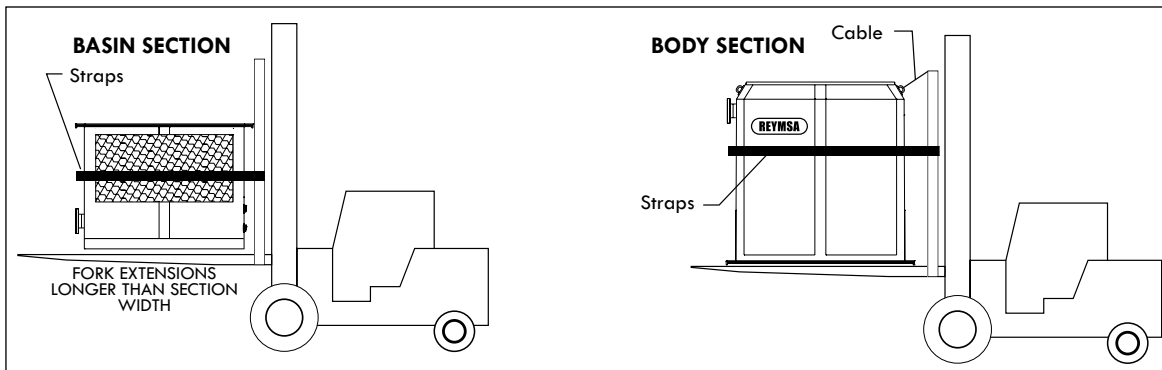
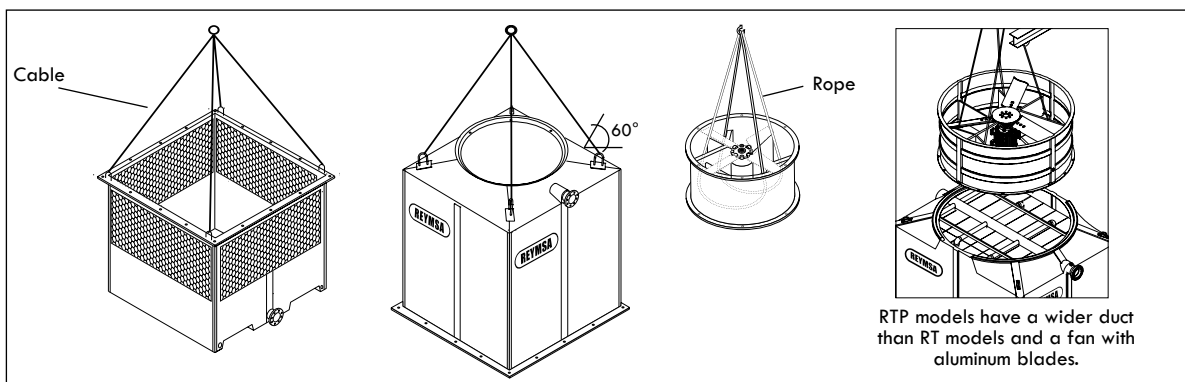

Figure A-3: Single Fan Tower fork lifting
Figure A-4: Single Fan Tower crane lifting
- C. After verifying the equipment is received in proper condition, proceed to unload it piece by piece, with a crane or forklift of the appropriate capacity (see Figure A-3 and Figure A-4 for reference).
- D. For crane lifting, it's recommended to use a minimum lifting angle of 60° between the strap and the horizontal. The basin section of the Single Fan towers has U-bolts on the flange for lifting, one on each corner. Place the straps through the u-bolts (as shown in Figure A-4). Don't balance until tensing the straps.